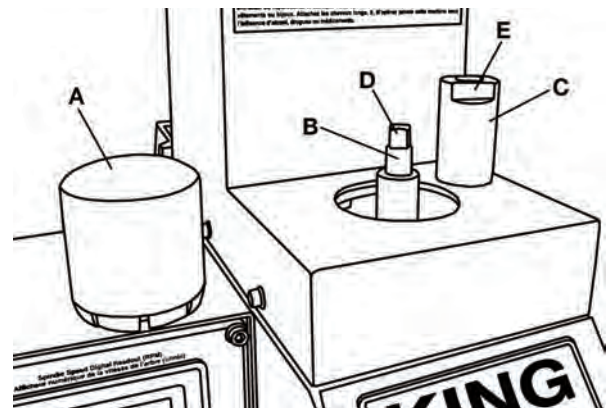

FIGURE 6
- 1) Remove the drawbar cap (A) Fig.6 by simply pulling it upwards.
- 3) Insert the drawbar (B) into the top end of the spindle and thread it into the arbor. At this point, tighten the drawbar by hand.
- 4) Thread the drawbar nut (C) onto the drawbar and tighten the drawbar nut by hand.
- 5) Place an 8mm wrench on the drawbar flat (D) to prevent the spindle from turning while you use a 17mm wrench on the drawbar nut flat (E) to secure the drawbar. Do not overtighten the drawbar and nut, this will only make the removal of the chuck and arbor more difficult and could damage the arbor and threads.
- 6) Reinstall the drawbar cap (A).
- 2) Unscrew the drawbar nut (C) and the drawbar (B) using the 8mm and 17mm wrenches.